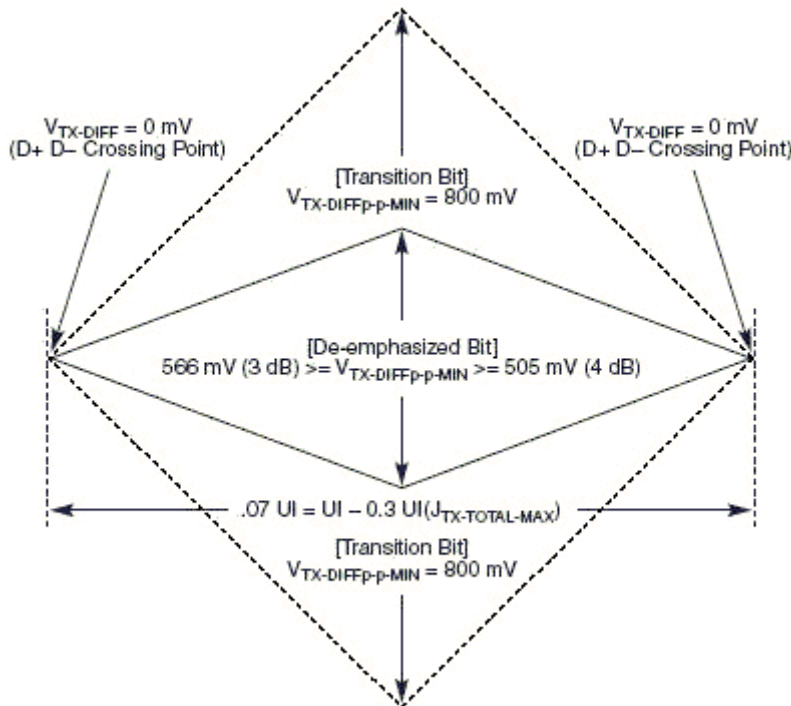
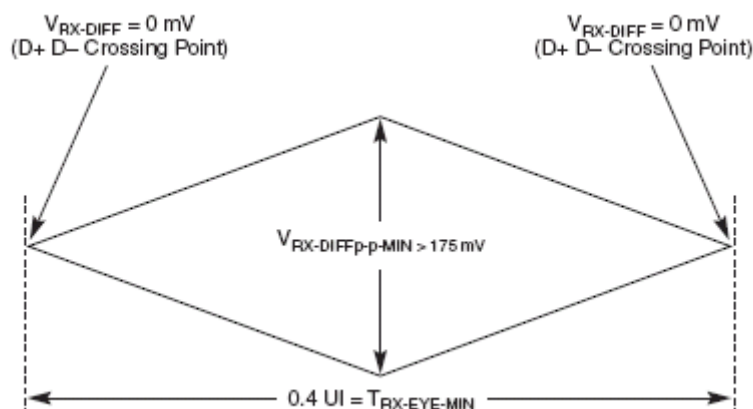
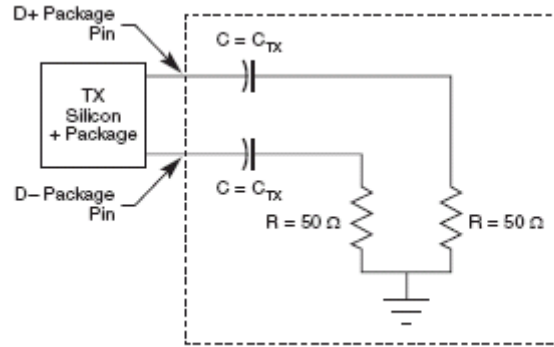

Figure 49. Minimum Transmitter Timing and Voltage Output Compliance Specifications
Figure 50. Minimum Receiver Eye Timing and Voltage Compliance Specification
Figure 51. Compliance Test/Measurement Load
- Specified at the measurement point into a timing and voltage compliance test load as shown in Figure 51 and measured over any 250 consecutive TX UIs. (Also refer to the transmitter compliance eye diagram shown in Figure 49)
- The Transmitter input impedance shall result in a differential return loss greater than or equal to 12 dB and a common mode return loss greater than or equal to 6 dB over a frequency range of 50 MHz to 1.25 GHz. This input impedance requirement applies to all valid input levels. The reference impedance for return loss measurements is 50 Ω to ground for both the D+ and D- line (that is, as measured by a Vector Network Analyzer with 50 ohm probes—see Figure 51). Note that the series capacitors C_{TX} is optional for the return loss measurement.
- Measured between 20-80% at transmitter package pins into a test load as shown in Figure 51 for both V_{TX-D+} and V_{TX-D-} .
The TX eye diagram in Figure 49 is specified using the passive compliance/test measurement load (see Figure 51) in place of any real PCI Express interconnect + RX component.
2. Specified at the measurement point and measured over any 250 consecutive UIs. The test load in Figure 51 should be used as the RX device when taking measurements (also refer to the Receiver compliance eye diagram shown in Figure 50). If the clocks to the RX and TX are not derived from the same reference clock, the TX UI recovered from 3500 consecutive UI must be used as a reference for the eye diagram.
4. The Receiver input impedance shall result in a differential return loss greater than or equal to 15 dB with the D+ line biased to 300 mV and the D- line biased to -300 mV and a common mode return loss greater than or equal to 6 dB (no bias required) over a frequency range of 50 MHz to 1.25 GHz. This input impedance requirement applies to all valid input levels. The reference impedance for return loss measurements for is 50 ohms to ground for both the D+ and D- line (that is, as measured by a Vector Network Analyzer with 50 ohm probes—see Figure 51). Note: that the series capacitors CTX is optional for the return loss measurement.
The RX eye diagram in Figure 50 is specified using the passive compliance/test measurement load (see Figure 51) in place of any real PCI Express RX component.
Note: In general, the minimum Receiver eye diagram measured with the compliance/test measurement load (see Figure 51) will be larger than the minimum Receiver eye diagram measured over a range of systems at the input Receiver of any real PCI Express component. The degraded eye diagram at the input Receiver is due to traces internal to the package as well as silicon parasitic characteristics which cause the real PCI Express component to vary in impedance from the compliance/test measurement load. The input Receiver eye diagram is implementation specific and is not specified. RX component designer should provide additional margin to adequately compensate for the degraded minimum Receiver eye diagram (shown in Figure 50) expected at the input Receiver based on some adequate combination of system simulations and the Return Loss measured looking into the RX package and silicon. The RX eye diagram must be aligned in time using the jitter median to locate the center of the eye diagram.
The reference impedance for return loss measurements is 50. to ground for both the D+ and D- line (that is, as measured by a Vector Network Analyzer with 50. probes—see Figure 51). Note that the series capacitors, CTX, are optional for the return loss measurement.
The AC timing and voltage parameters must be verified at the measurement point, as specified within 0.2 inches of the package pins, into a test/measurement load shown in Figure 51.